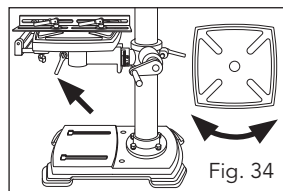

Fig. 34
Slacken the table lock (32) to rotate the drill table to the left or right (4). Retighten when the drill table is in the desired position (Fig. 34).